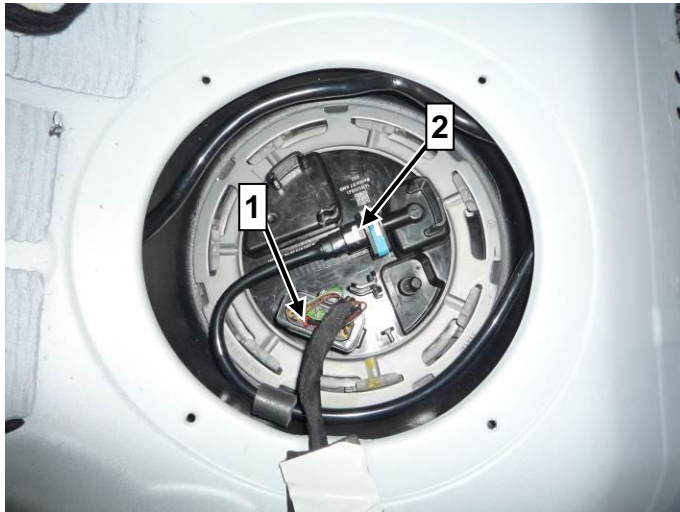

Figure 2
- Disconnect electrical connector (1, Figure 2) and place to one side.
- Disconnect fuel line (2, Figure 2).
7. Reconnect fuel line (2, Figure 2).
8. Reconnect electrical connector (1, Figure 2).
4. Reconnect fuel line (2, Figure 2).
5. Reconnect electrical connector (1, Figure 2).